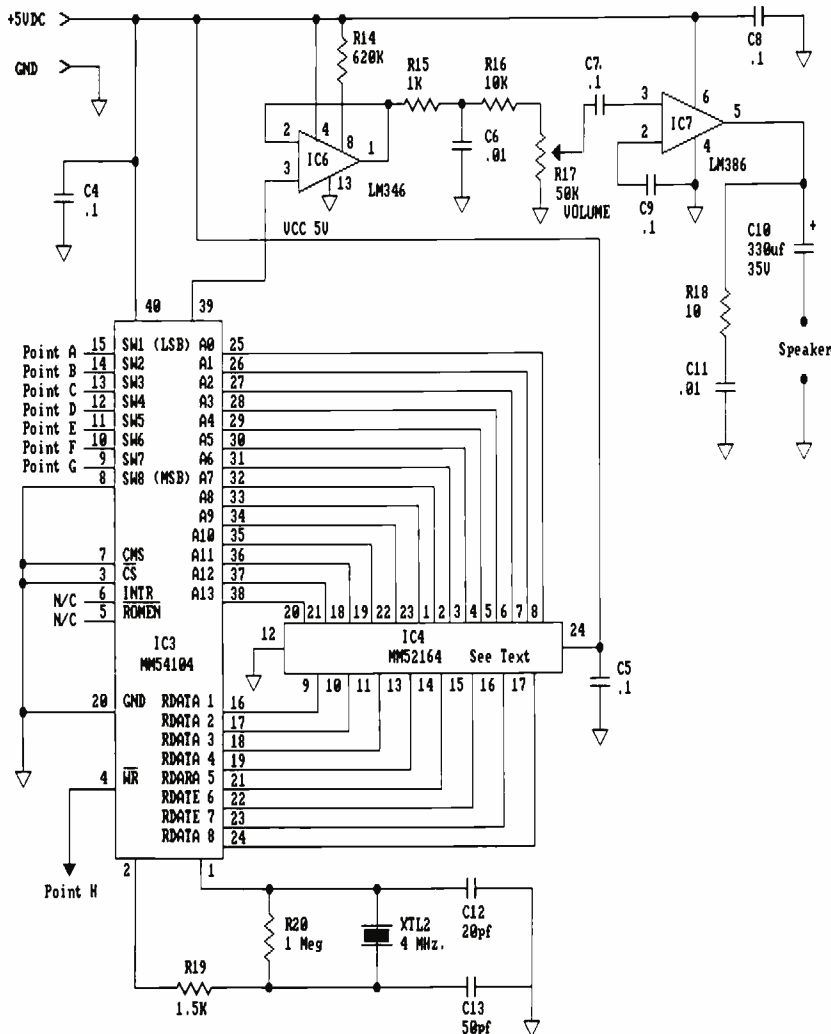
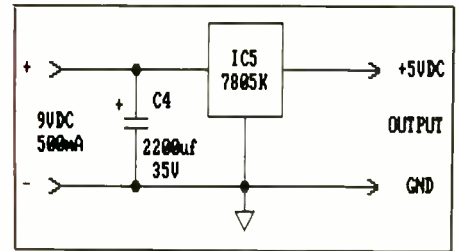
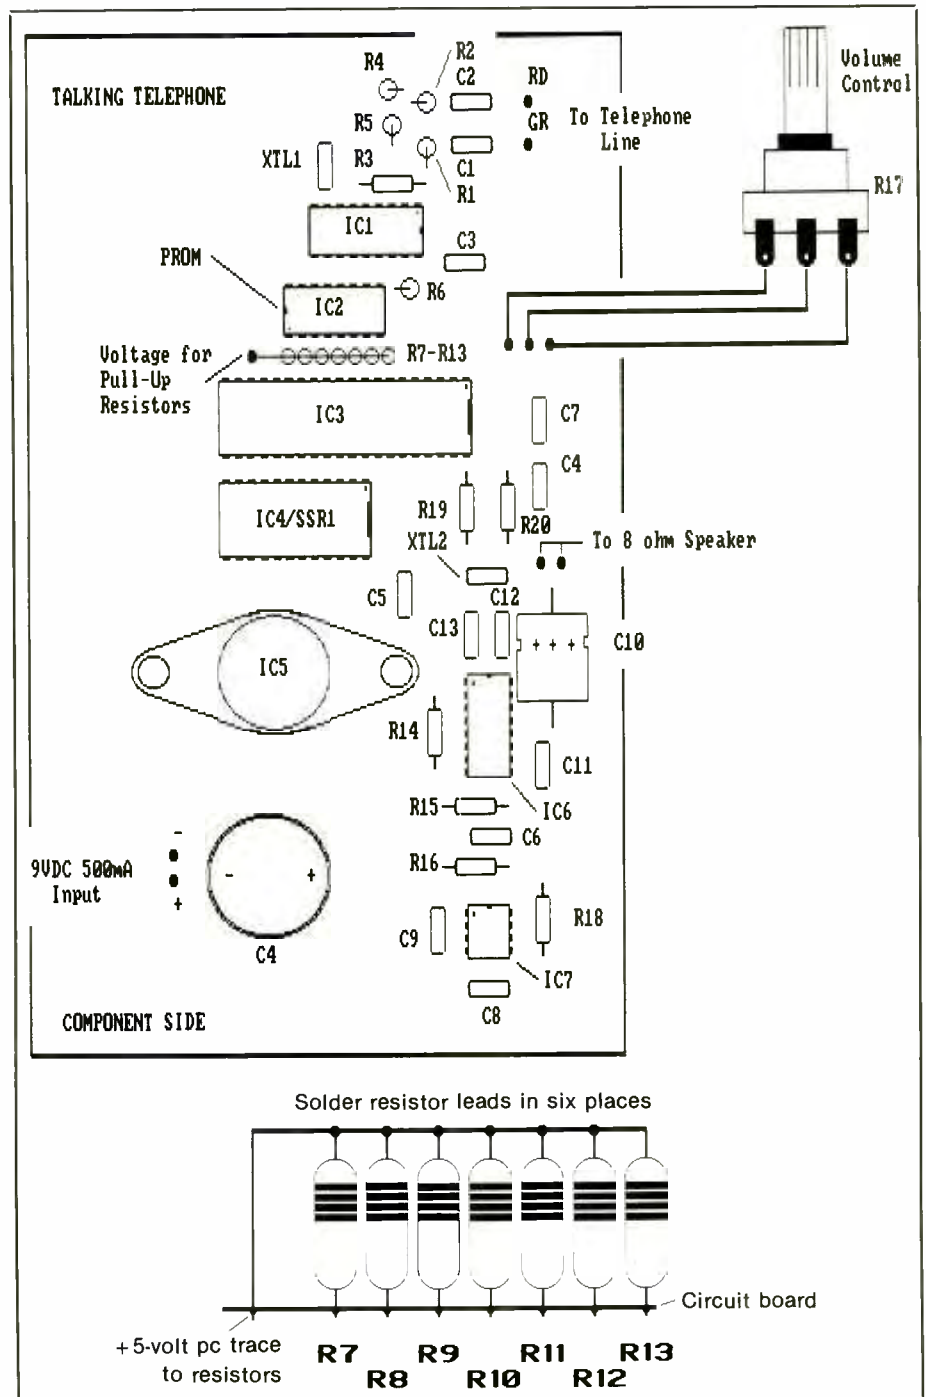

Fig. 6. Schematic diagram of basic Talking Telephone circuitry shown in two parts.
Fig. 7. Schematic diagram of power-supply circuitry for Talking Telephone.
Fig. 9. Wiring diagram for printed-circuit board, with detail for mounting resistors on-end.
Pins 1 and 2 of IC1 in Fig. 6(A) connect directly across the telephone line through the C1/R1 and C2/R2 networks, respectively. This input allows the DTMF signal that is generated by pressing one of the keys on the tone dialer to be passed to the complex filtering and switching electronics inside IC1. The binary code that corresponds to the key pressed, listed in Table 1, is made available at pins 11 through 14 of IC1.
is to have the Digitalker vocalize a predefined word when a specific binary code is placed on its Data Input bus, shown as SW8 through SW1 at pins 8 through 15 in Fig. 6(B). For illustrative purposes, let us assume that the "1" button on the dialer keypad is pressed. Table 1 indicates that this would generate a binary code of 0001. Table 2 indicates that a binary code of 00000001 is placed on the Data Bus of IC3, causing the Digitalker to vocalize the word "one."
Now let us assume that the "5" button on the dialer keypad is pressed, which causes IC1 in Fig. 6(A) to output the binary code 0101, as indicated in Table 1. Table 2 shows that this code will cause the Digitalker to vocalize the word "five." Let us take this a bit further by assuming that the "0" key is pressed, causing the binary code 1010 to be generated, according to Table 1. Referring to Table 2, the binary code 1010 will cause the word "ten" to be vocalized. Obviously, this is not what is wanted. One of the tasks assigned to IC2 is to correct for this situation for our particular application.
the appropriate binary code to the Data Input bus of IC3 at pins 8 through 15. To allow the Digitalker to output a signal that will vocalize the selected word, a logic-1 pulse must be applied to the pin 4 Write Strobe input of IC3 in Fig. 6(B). Returning to Fig. 6(A), the pin 10 Strobe Output of IC1 produces the
The positive-going pulse is coupled directly to pin 4 of IC3 in Fig. 6(B). When any key on the dialer keypad is pressed, two actions occur. The first is placement of the appropriate binary code on the Data Input lines of IC3. The second is that the needed positive-going pulse is generated by the DTMF Receiver and is available at pin 10 of IC1 in Fig. 6(B).
The MM52164 shown in Fig. 6(B) as IC4 is the SSR1 ROM that is programmed with the vocabulary data listed in Table 2.
Power for the Talking Telephone is provided by a common 9-volt, 500-milliampere dc plug-in wall power supply, as shown in Fig. 7. The raw dc output from this power supply is filtered by C4 and regulated to 5 volts by regulator chip IC5. It is then delivered to the circuitry shown in Fig. 6.
Orient the pc board on your work surface as shown in Fig. 9 (make certain that its component side is facing up) and begin wiring it by installing and soldering into place the IC sockets. Do *not* install the ICs in the sockets until after you have conducted voltage checks and are certain that your wiring is correct. (Note: Use Fig. 9 as a rough guide to component layout if you wire the project on perforated board, but refer back to Fig. 6 and Fig. 7 for wiring details.)
plugs into the hole to the left of the resistor network and solders into place. The method of accomplishing this is shown in the detail drawing at the lower-right in Fig. 9.